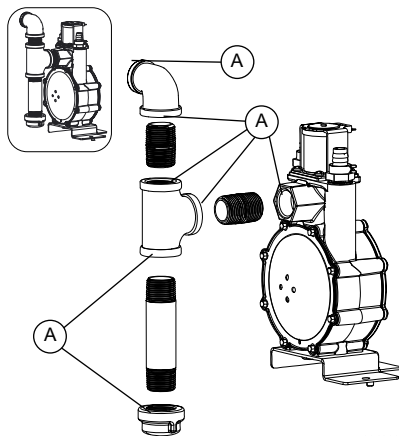

Figure 5-5. Connection Points to Leak Check
See Figure 5-5. Perform a final fuel system leak test after generator installation. The test will identify possible leaks at all connection points (A).